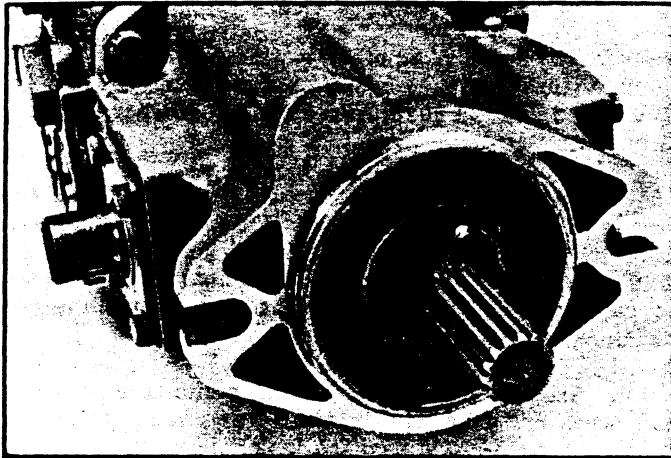

Figure 8. Transmission Pilot Flange.
1. Direct Mounting - A pilot on the transmission pump mounting flange (Figure 8) assures correct mounting and shaft alignment. Make sure the pilot is firmly seated in the accessory pad of the power source. Care should be exercised in tightening the mounting screws to prevent misalignment.